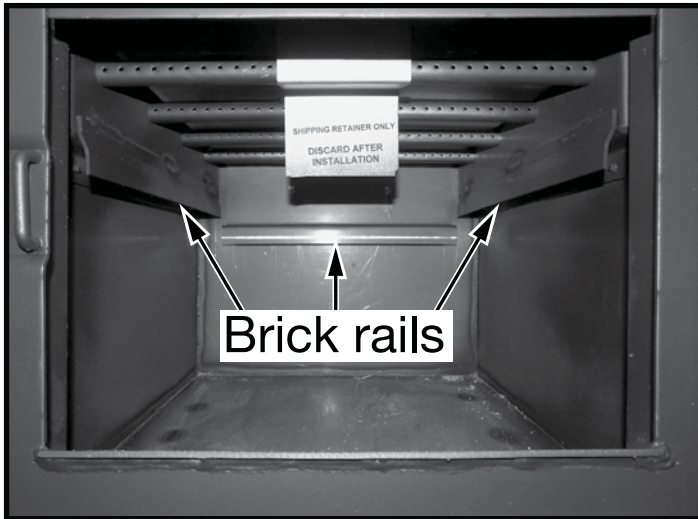

Figure 12: Firebox and brick rails.
1. Place the first brick up under the rear brick rail (Figure 12) and slide it to either the far left or far right.